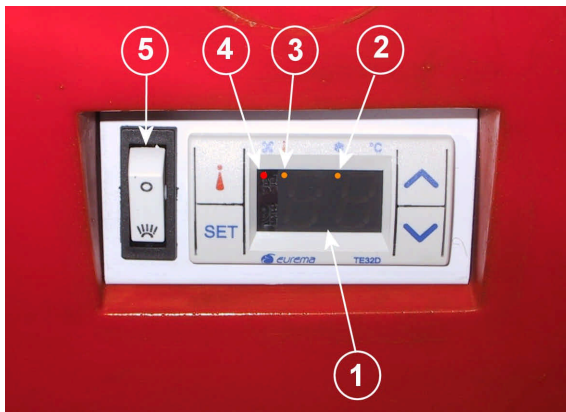

Figure 7
- *Controller and light switch support plate* (Fig. 7).
- Light switch (IL) (39);
- Controller master unit with temperature display (CE) (13) (fig. 7).
- Evaporator probe (H) (84): It monitors the evaporator temperature and send a signal to the controller master unit (CE) (13);
- Temperature probe (I) (85): it monitors the cooler's inner temperature and send a signal to the controller master unit (CE) (13);
- Digital thermometer (marked with "1" in Fig. 7): it shows the cooler internal temperature and informs the user on the state of the cooler using special codes;
- Compressor L.E.D. (marked with "2" in Fig. 7): it informs on the compressor's (CO) (20) state; it lights when the compressor is running, is switched off with compressor off and is flashing when the compressor is on stand-by;
- Evaporator motor fans (MI) (47) light (marked with "3" in Fig. 7): it informs on the evaporator motor fans state (MI)(47); it lights with fans running, is switched off with fans off and is flashing when fans are on stand-by;
- Alarm L.E.D. (marked with "4" in Fig. 7): flashing during a "warning phase", lit during an "alarm phase"and switched off in normal conditions.
The lights are wired to the light switch (IL) (39) located on the top tank enclosure (Fig. 7) beside the controller master unit. The electronic ballast (BA) (72) provides supply to the tubes.